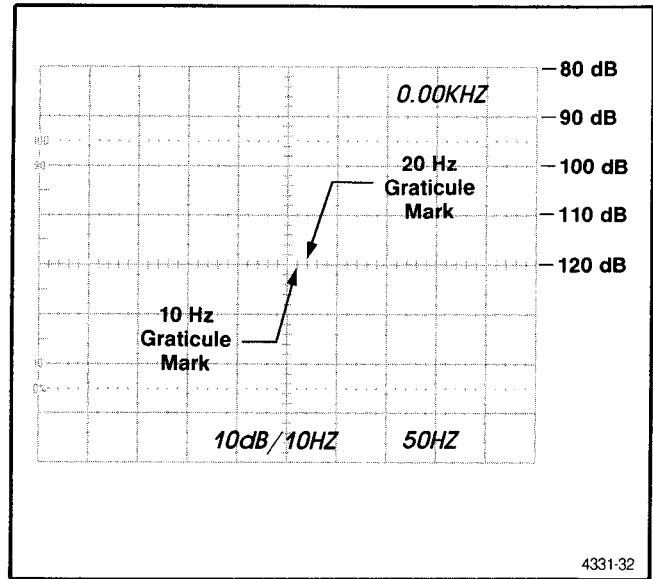

Fig. 5-4. 10 Hz null adjustment.
Adjust the 7L5 manual sweep dial to position the dot horizontally in line with the $10 Hz$ graticule mark (see Fig. 5-4).
b. Set the calibration fixture Mode to Notch (in) position and the Atten to 0 dB (out). Adjust the SG 5010 FREQ and the calibration fixture Adj for Null controls to position the dot vertical to the most stable point below the -80 dB level on the display. (See Fig. 5-4.)
n. Note the 2nd, 3rd, 4th, and 5th harmonics on the waveform, or as many of these harmonics as are visible. See Fig. 5-4 and compute the thd using the formula in step 13-e.